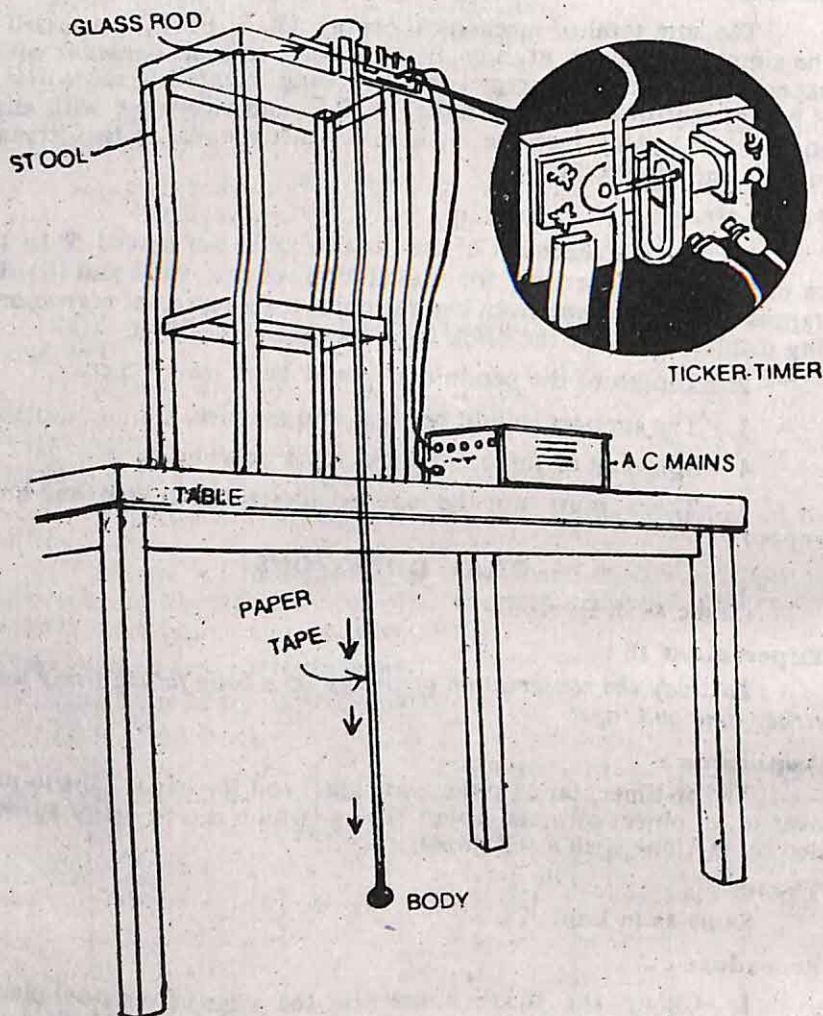

Fig. 18.1.
2. Hang the object with the tape using a sellotape (Fig. 18.1). Hold the spool of the tape in a horizontal axle clamped in a stand so that it feeds the tape into the timer without applying any significant drag while the body is falling freely.